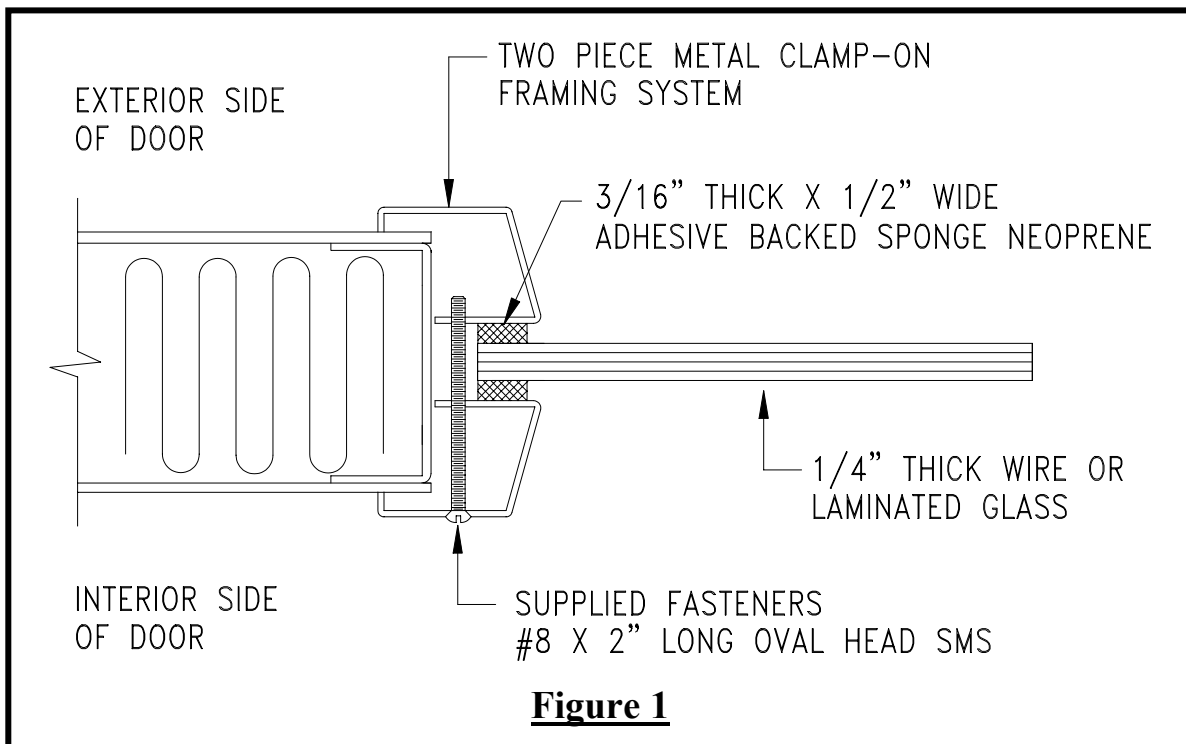

Figure 1
- Step 1.** Locate 3/16" thick x 1/2" wide adhesive backed neoprene. On both halves of the metal framing system, apply the neoprene around entire frame perimeter as shown in Figure 1 below.